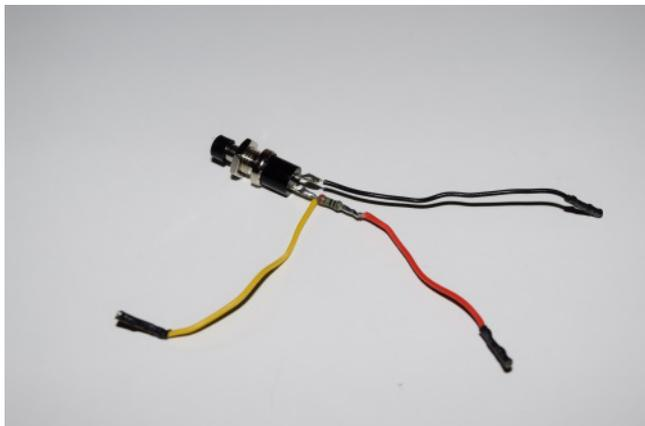

Figure 5-24. *The switch*
The switch (Figure 5-24) is for accepting messages and connects directly to the Raspberry Pi I/O header. Let's get started.
3. Solder the jumpers, as shown in Figure 5-24.